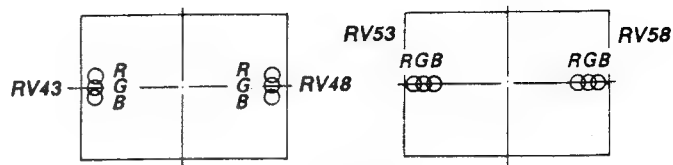

Fig. 1-22
2. Adjust RV43, RV48 and RV53, RV58 on the DC board to coincide with the R, G and B dots as shown in Fig. 1-22.